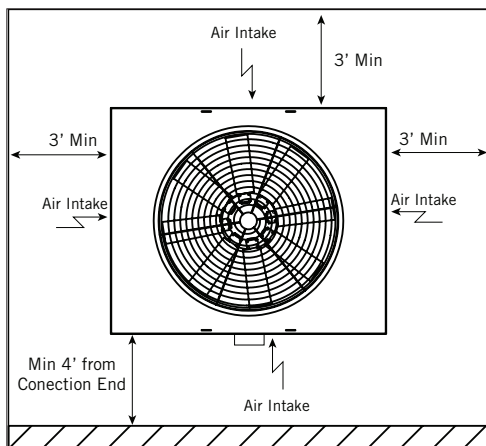

Figure 1. Plan View of Recommended Unit Servicing and Maintenance Spacing
4. Provide adequate space around the unit for piping and proper servicing and maintenance, as shown in **Figure 1**. Maintain 3' minimum around unit for maintenance access and 4' minimum from connection end.